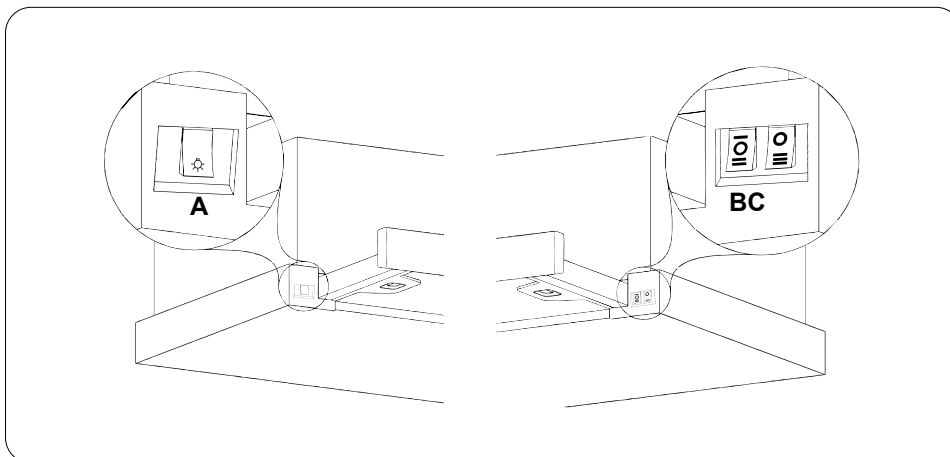

Fig. 18
1. To operate the device in first level switch the key to  position (Fig. 18/B).
2. To operate the device in second level switch the key to  position (Fig. 18/B).
3. To operate the device in second level switch the key to  position (Fig. 18/C).
4. Switch the on / off button on the control panel to , to turn the device off (Fig. 18/ C)
5. Switch the light on / off button on to  to turn the device lamp on (Fig. 18/A).